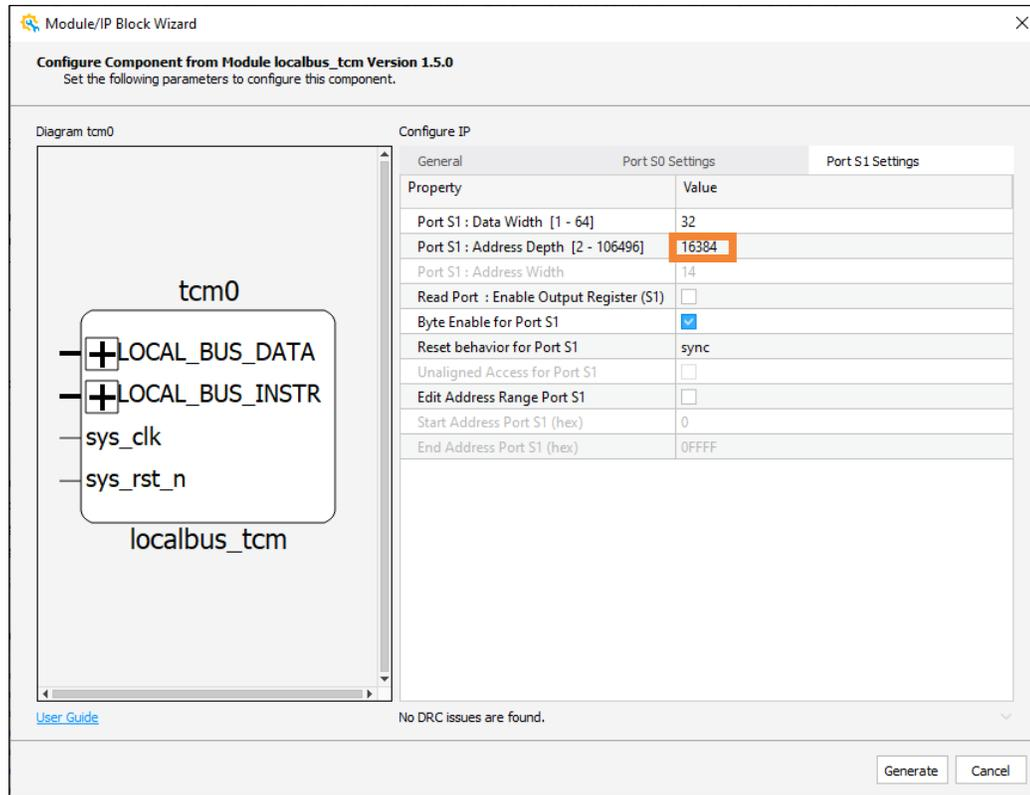

Figure A.10. tcm0_inst Port S1 Address Depth Settings 2
2. Double-click the tcm0_inst IP. The Port S0 address depth settings and the Port S1 address depth settings are shown in the Module/Block IP Wizard GUI (Figure A.9 and Figure A.10).